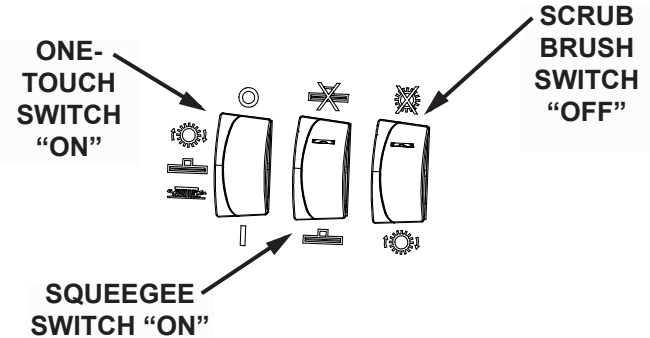

Fig. 1: Control Settings for Water Pick-up Mode
2. To begin operating with only the squeegee and vacuum system, insure that the squeegee switch is in the "on" position and set the scrub brush switch(s) to the "off" position (an illuminated red light on each switch indicates that that function is turned off). See Fig. 1.